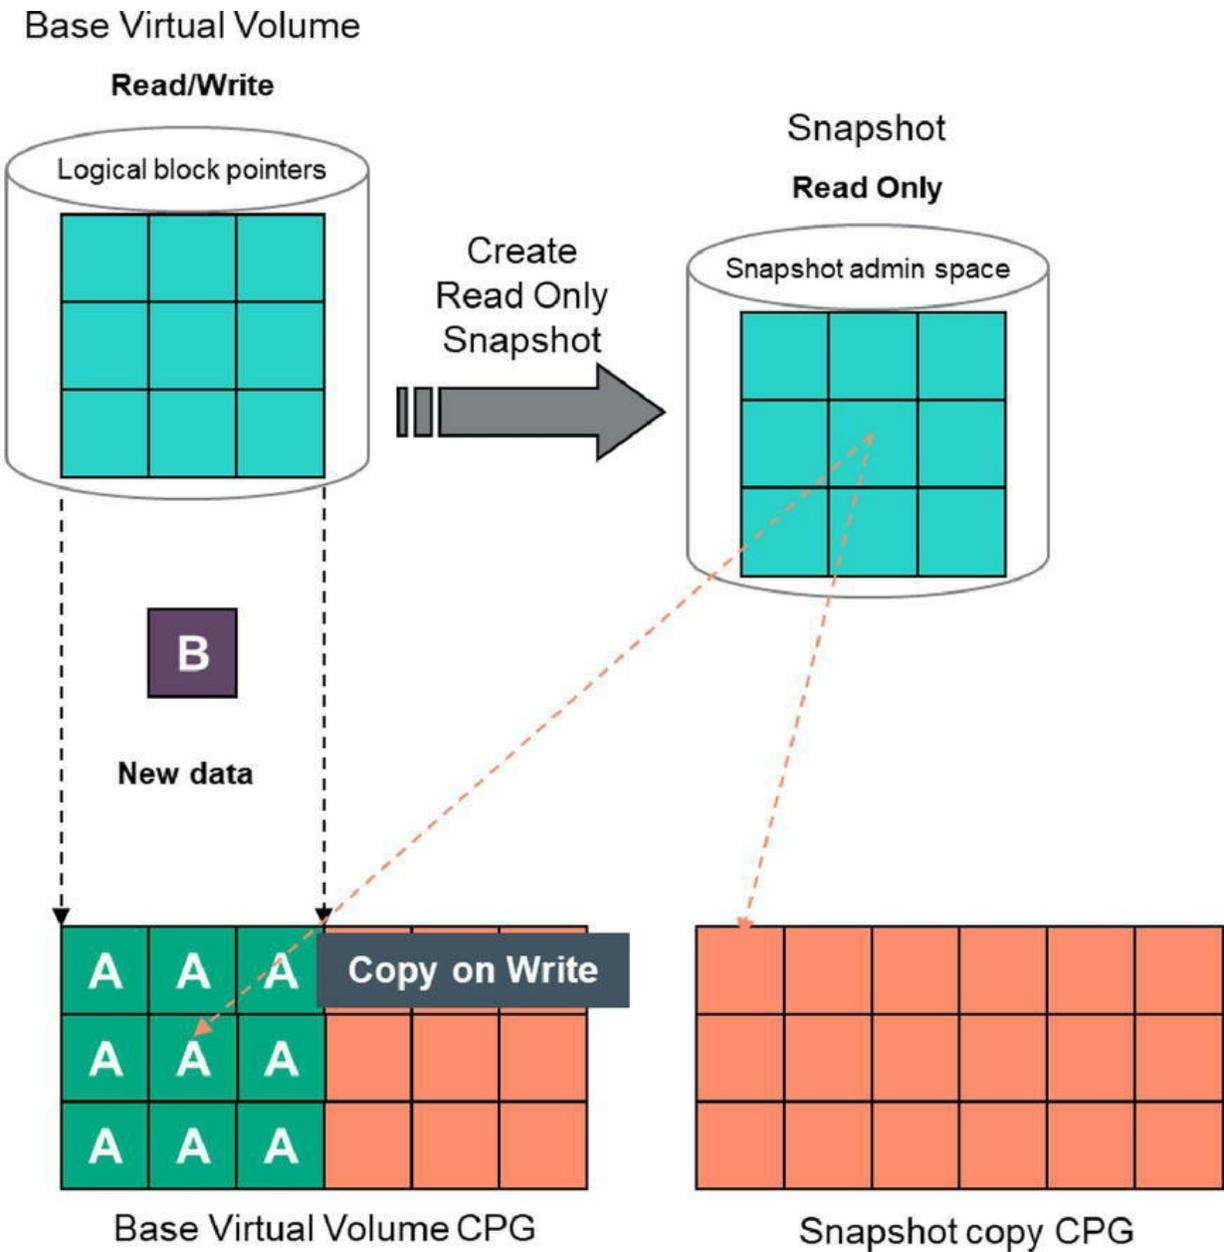

Figure 5-75 Snapshot and the copy on write feature
In the copy-on-write process, as indicated in Figure 5-75, the old data is located on the parent virtual volume (or user LD). This data gets copied to the snapshot data space (SD).